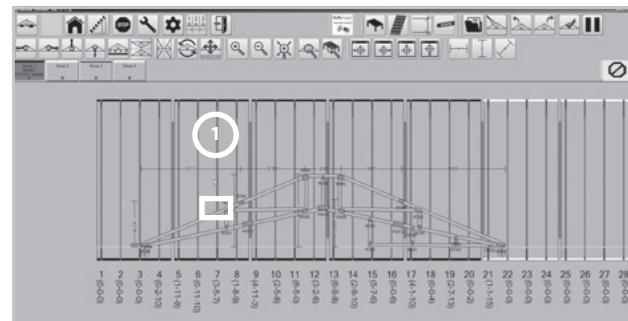

Figure 49
1. Select a puck to move by clicking on its axis, the axis will turn red (Figure 49)